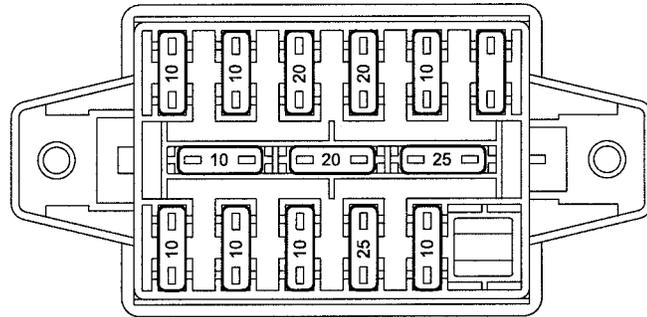

Figure 79
- If a fuse continually fails, have the electrical harnesses check by your Cub Cadet dealer or a qualified electrician. See Figure 79.